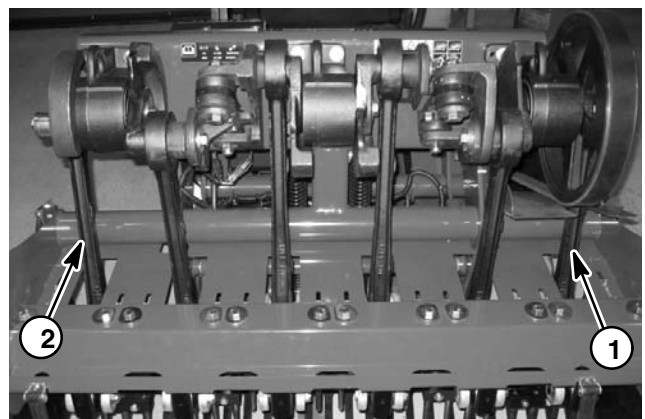

Figure 2
The coring crankshaft assembly is composed of six (6) crankarms. One of the crankarms is incorporated into the crankshaft pulley. The crankarms need to be timed for proper aerating operation. For assembly purposes, crankshaft positions are identified as #1 through #6. The #1 position is on the right (pulley) side of the crankshaft (Fig. 2). The crankshaft position is cast into the crankarms to assist in correct crankshaft assembly.